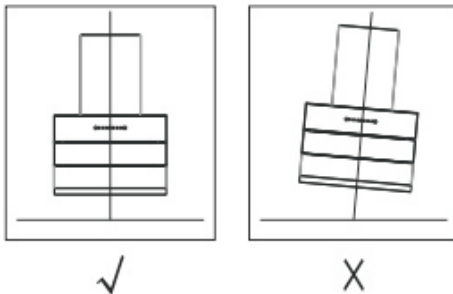
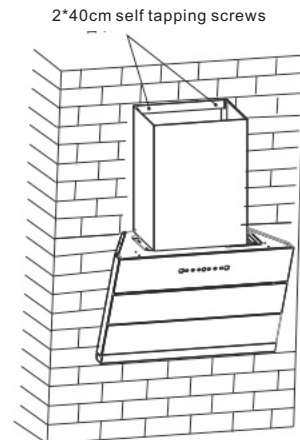

Fig.6
Fig.7
- Install the main unite to the wall plate. Make sure the unite is placed correctly. (Fig.6) Place the chimney to the correct position, mark the holes positions. Put the cooker hood down, drill holes on the marks. Put the main unit back in place. Install the chimney with 2\*40cm self tapping screws (Fig.7).